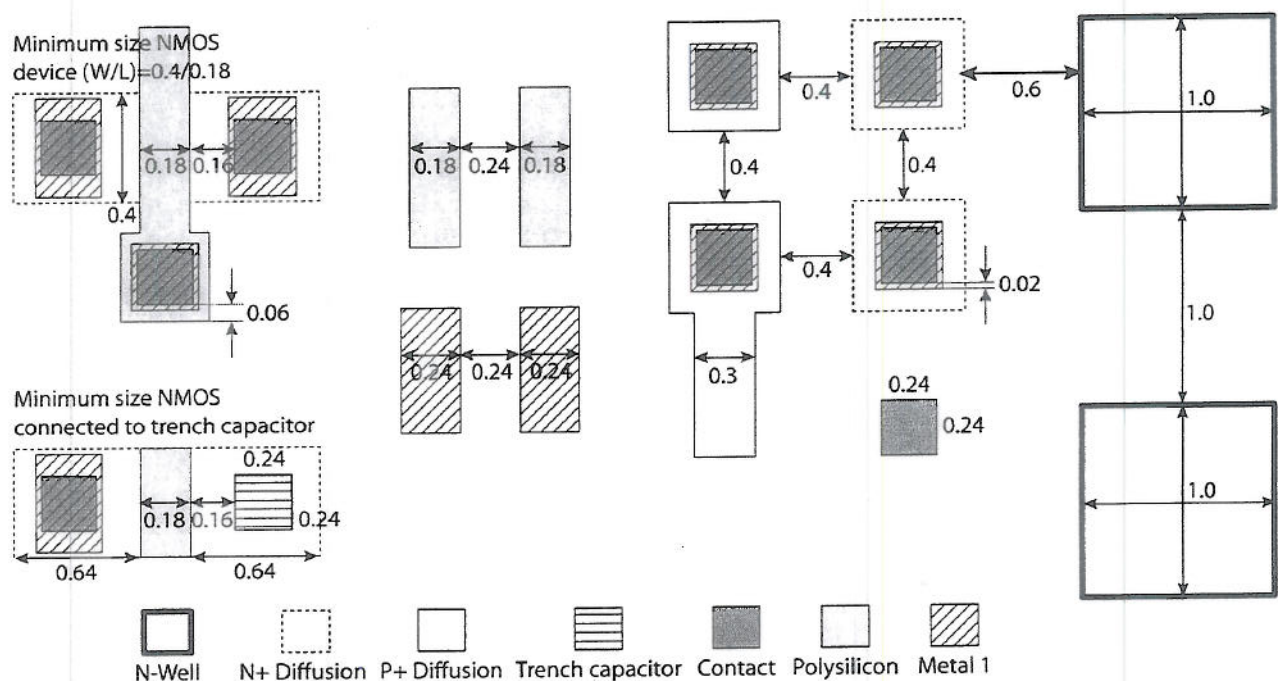

Figure 4.2
- b) Using the technology data (Table 4.1) and design rules (Figure 4.2) given below, draw the layout of the *DRAM* memory bit using a *trench capacitor* as the storage element using minimum spacing rules. This cell should tessellate (i.e. self-connect if patterned in a large array). What is the silicon area required per bit of memory?